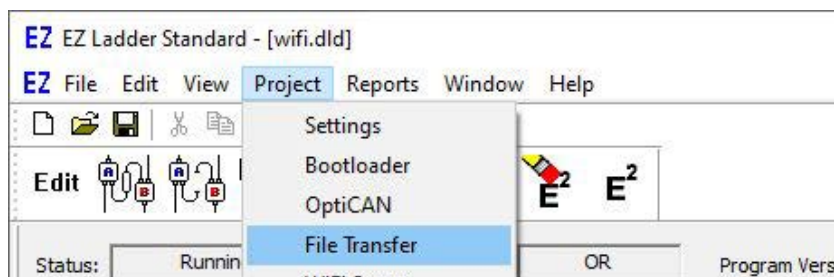

Figure 20-4
4. From the menu at the top, select **Project** then select **File Transfer**. Refer to Figure 20-4.